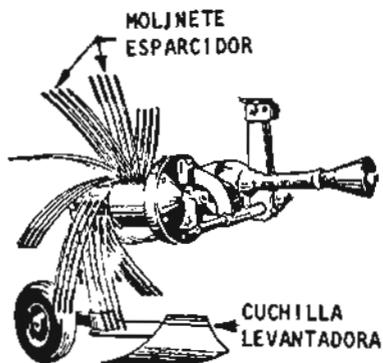

Fig. 1
*CASO I - SACADORA INTEGRAL (fig. 1)*